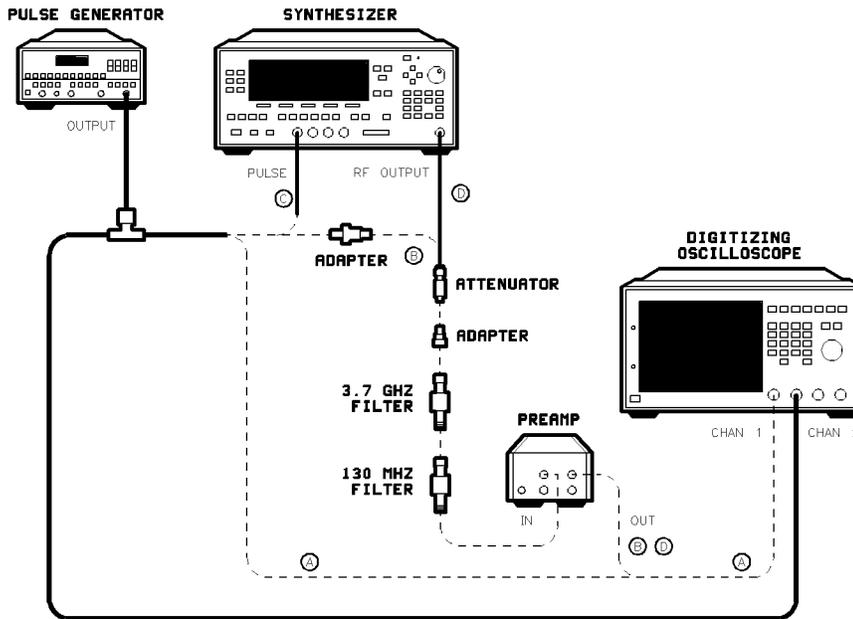

Figure 2-21. Video Feedthrough Test Setup
1. Preset all the instruments shown in Figure 2-21 and let them warm up for at least one hour.
3. Connect the equipment as shown in Figure 2-21 with the pulse generator connected directly to channel 1 of the oscilloscope (A).